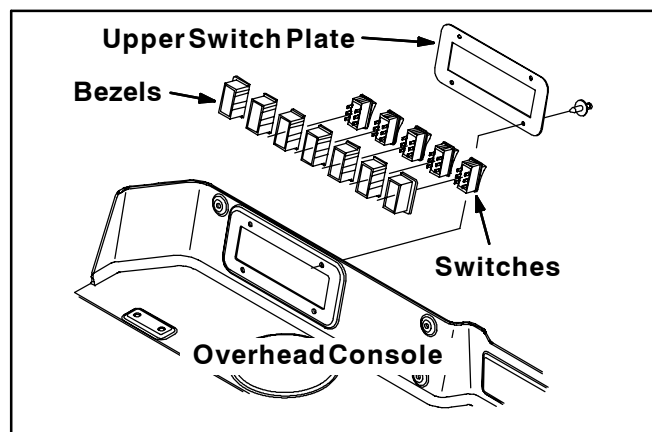

FIG. 3
22. Remove the upper switch plate/switches from the overhead console. Refer to Fig. 3.
26. Reinstall the upper switch plate cover into the overhead console. Refer to Fig. 3.